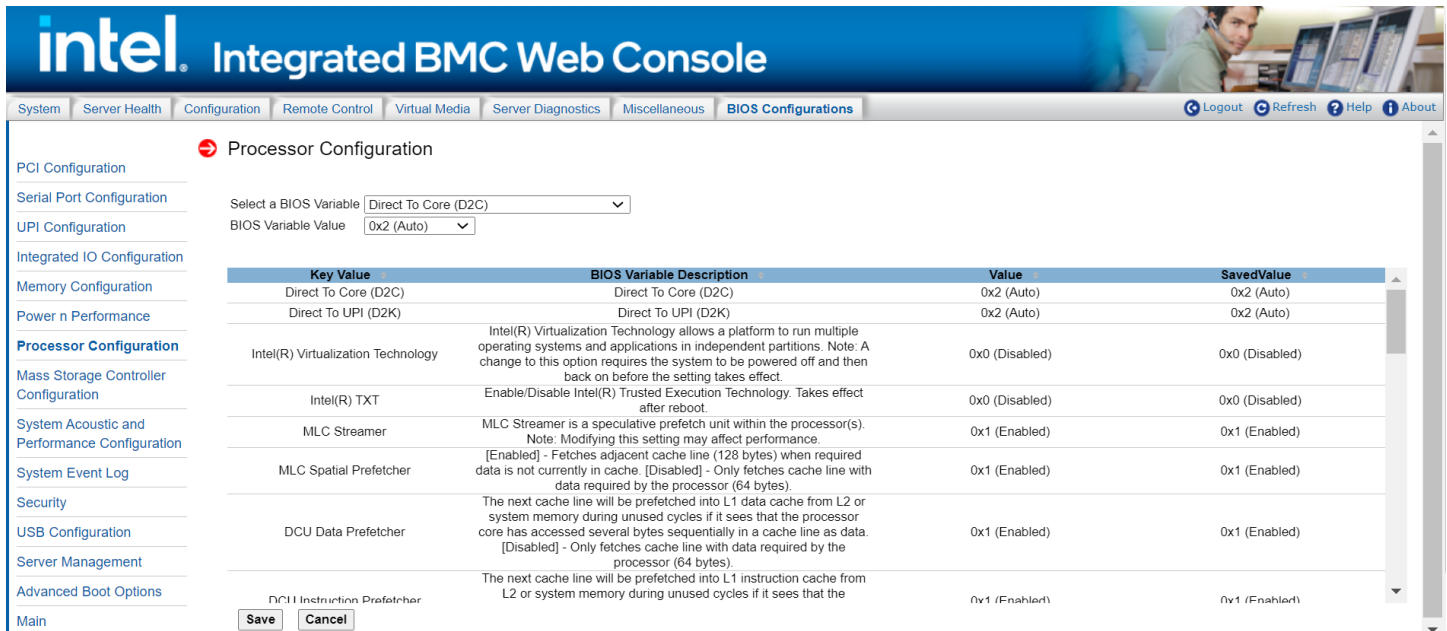

Figure 106. BIOS Processor Configuration Page
This page allows the user to configure the number of cores to enable in each processor package, enable/disable Intel(R) Hyper-Threading/execute disable bit/Intel(R) virtualization/Intel(R) TXT. See Figure 106 for details. Table 36 lists all processor configuration variables that can be viewed and edited.